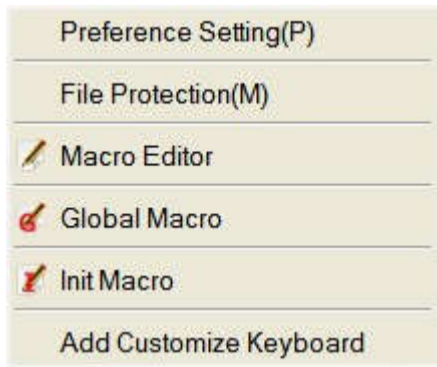

Figure 5-1 (Macro Menu)
Method 1: select "Setting (S) -> Macro" from the menu as shown in Figure 5-1 (macro menu), and pop up interface as shown in Figure 5-1(macro editor).